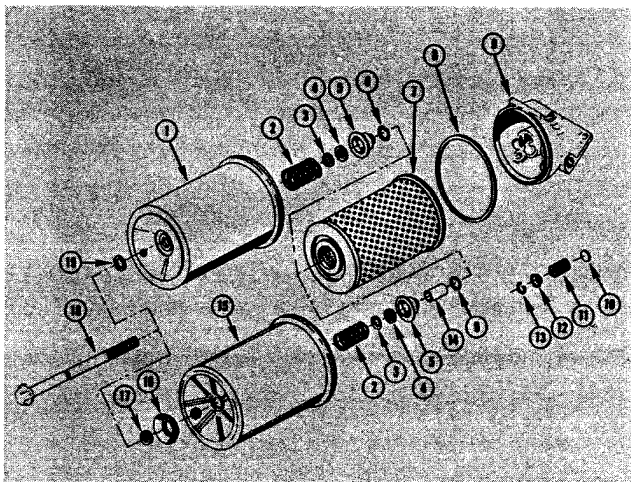

Fig. 2-4, (V10702). Full flow oil filter assembly
**Note:** It is recommended that every second oil change to change the small seal rings (4 and 17, Fig. 2-4) at bottom of oil filter can to prevent oil leakage due to hardening of rubber seals. Inspect seals each oil change for deterioration.